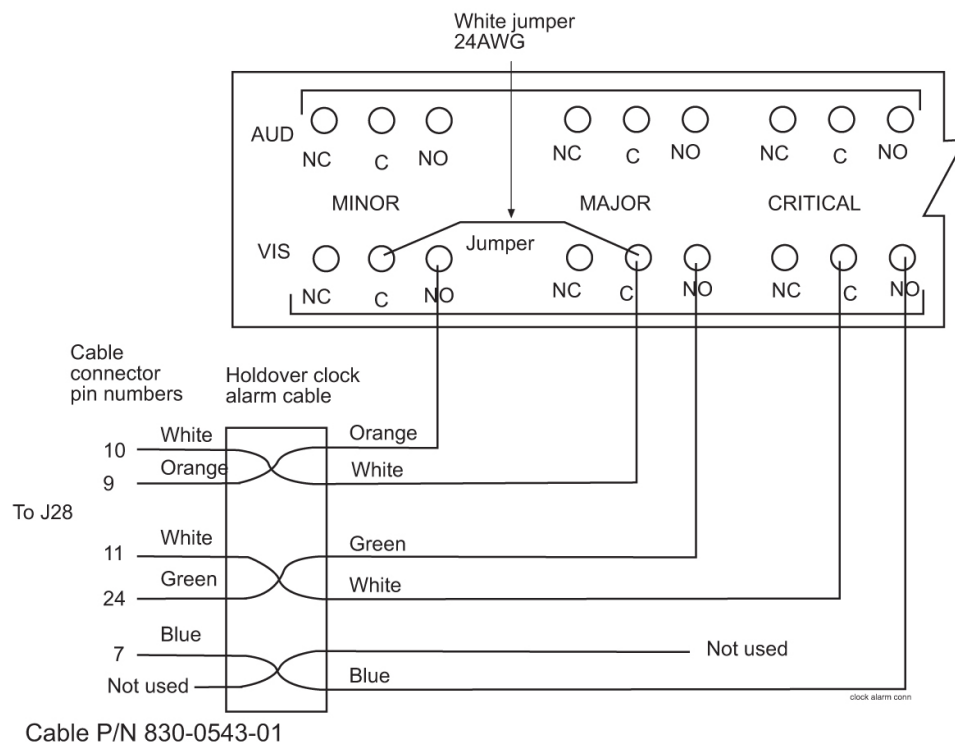
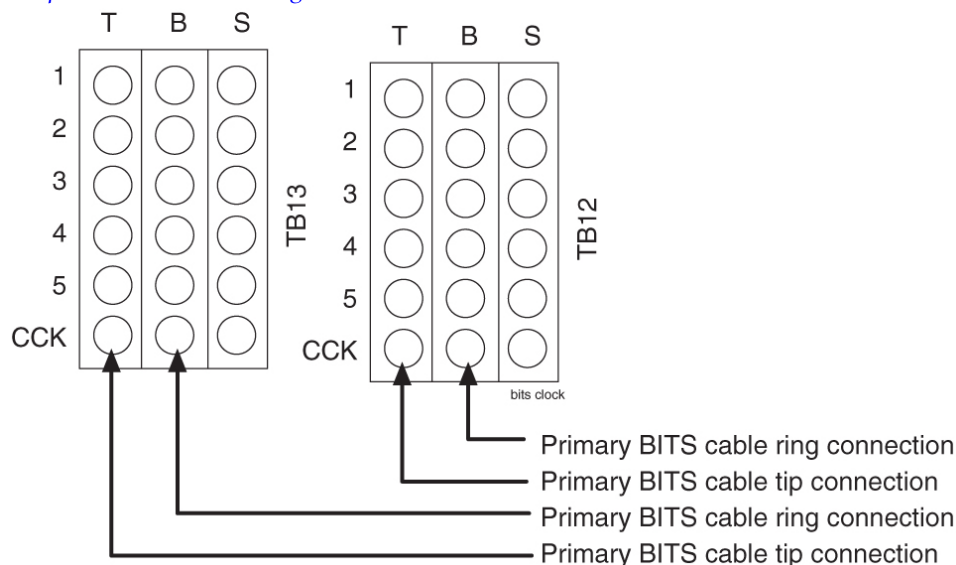

Figure 118: Holdover Clock Alarm Connections
Figure 119: BITS Clock Source Connections
The installation connections are shown in the wiring layouts in Figure 118: Holdover Clock Alarm Connections and Figure 119: BITS Clock Source Connections.
The external alarm cable is an optional cable that may go from the EXTALM to a terminal block see Figure 118: Holdover Clock Alarm Connections.
10. Wire-wrap a 24-gauge jumper-wire between the minor and major common alarm connector pins as shown in Figure 118: Holdover Clock Alarm Connections.
11. Cut the wires to length, strip, and wire-wrap to the holdover clock at the locations shown in Figure 118: Holdover Clock Alarm Connections.
8. Cut the wires to length, strip, and wire-wrap to the holdover clock at the locations, TB12 and TB13, see Figure 119: BITS Clock Source Connections.